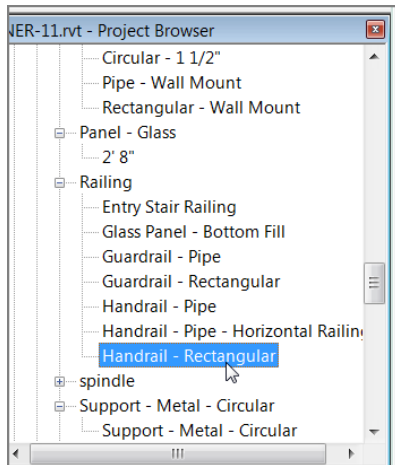

FIGURE 10.56: The railing family called Handrail - Rectangular
1. In the Project Browser, find the Families category and expand it, as shown in Figure 10.56.
3. Find Handrail - Rectangular, and double-click it (see Figure 10.56).